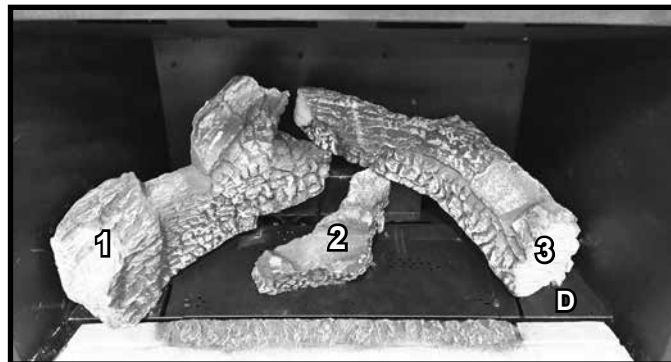

Figure 14 Log #3 Installed
**LOG #3:** With the burnout of Log #3 facing left, set the large end against log pin D, place the small end on the flat spot of Log #1. See Figure 14.